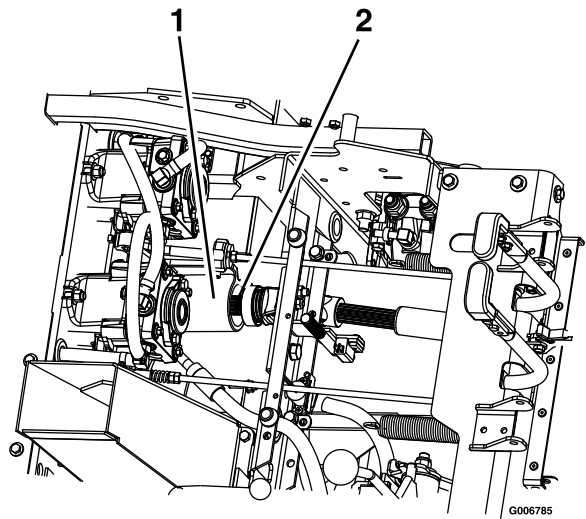

Figure 72
8. Raise the seat and disconnect the driveshaft using the quick coupler at the jackshaft (Figure 72).
3. Raise the seat and install the 1 driveshaft onto the jackshaft (Figure 72).